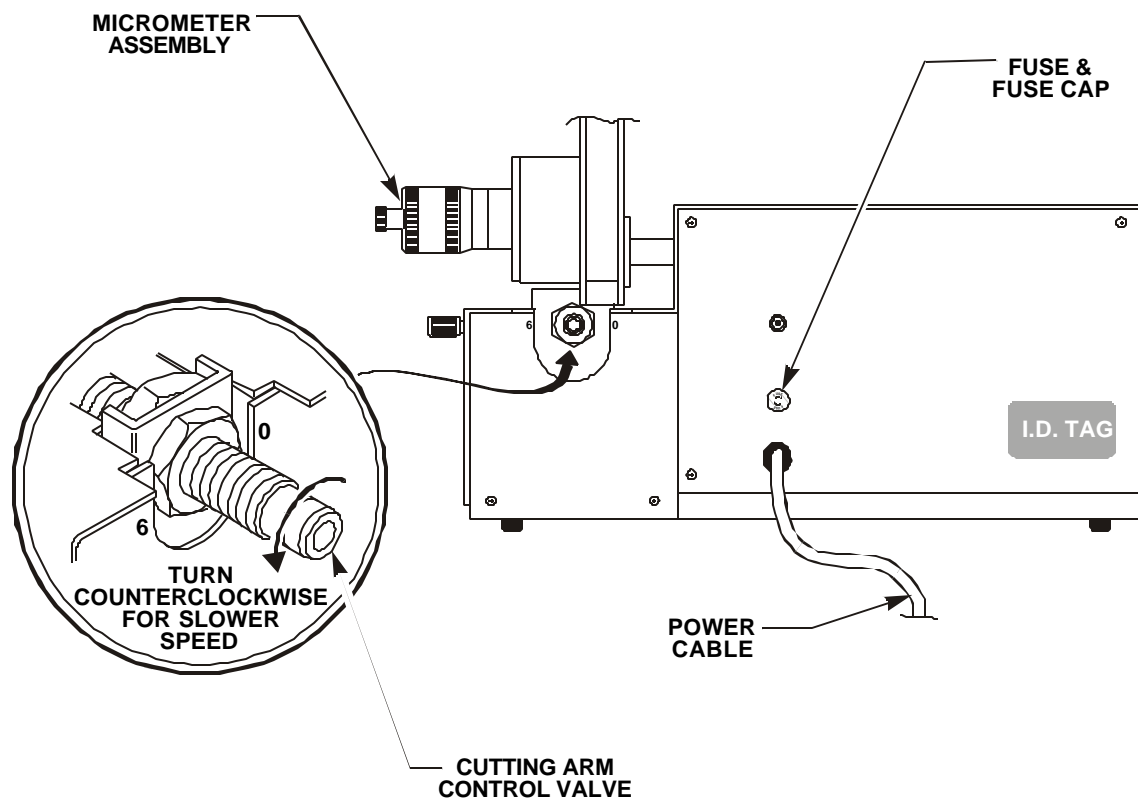

Figure 3
- A. Locate the cutting arm control valve on the back of the unit and turn the valve counter-clockwise (towards 6) until it comes to a complete stop (figure 3, page 21).
- F. Check the serial ID tag on the back of the unit for the required power supply and then connect the unit to the proper facility power (figure 3, page 21).
- 2. Hold the front end (vise) of the cutting arm at the uppermost position and disengage the cutting arm locking device by turning the knob fully clockwise to zero (figure 3, page 21).